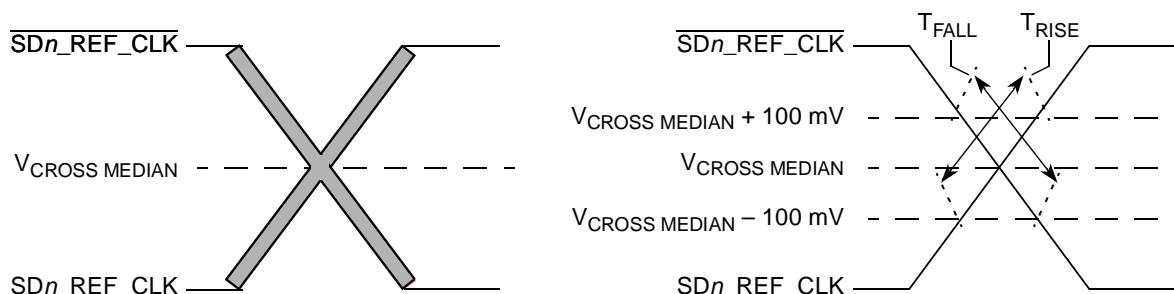

Figure 54. Single-Ended Measurement Points for Rise and Fall Time Matching
4. Matching applies to rising edge rate for SDn_REF_CLK and falling edge rate for $\overline{SDn_REF_CLK}$. It is measured using a 200 mV window centered on the median cross point where SDn_REF_CLK rising meets $\overline{SDn_REF_CLK}$ falling. The median cross point is used to calculate the voltage thresholds the oscilloscope is to use for the edge rate calculations. The rise edge rate of SDn_REF_CLK should be compared to the fall edge rate of $\overline{SDn_REF_CLK}$, the maximum allowed difference should not exceed 20% of the slowest edge rate. See Figure 54.